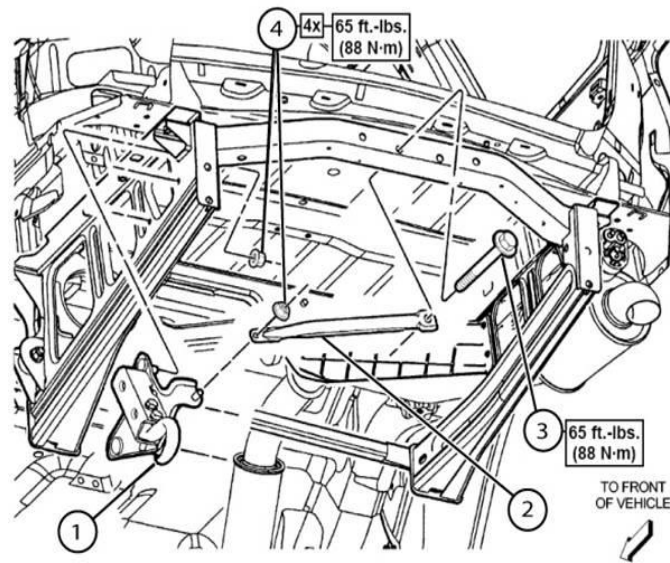

Fig. 7 Rear Tow Hook
- Position the rear tow hook brackets and loosely secure fasteners. Align the rear tow hook with the bracket and torque all fasteners to 65 ft.-lbs. (55 Nm.) (Fig. 7).